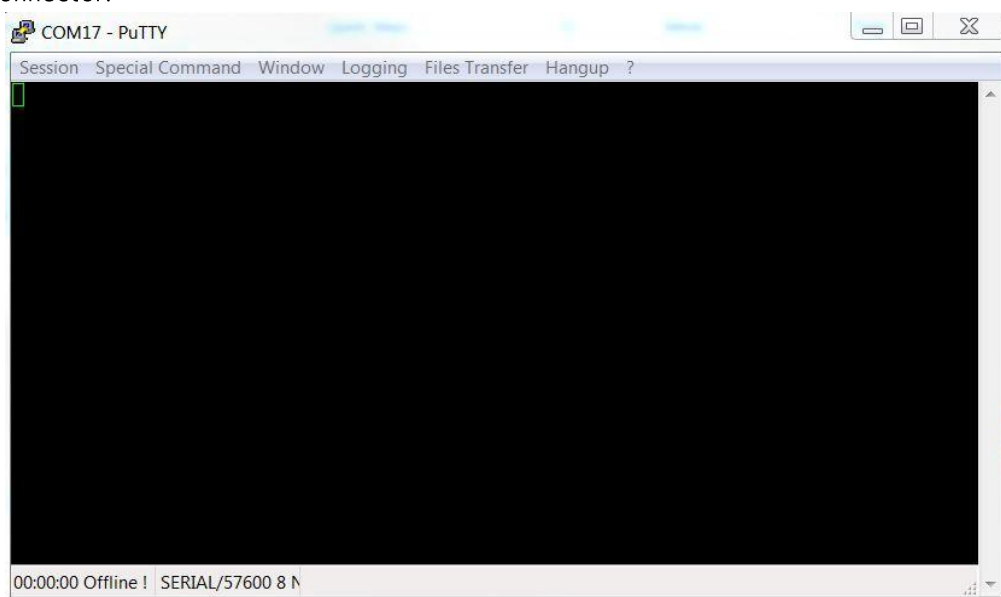

Fig. 9. Blank Session screen.
- (4) A blank Session screen as shown in Fig. 9 will then open. As described in the HyperTerminal directions, powerup the drive with the BOOTLOAD input grounded in the ADDRESS SELECT connector.